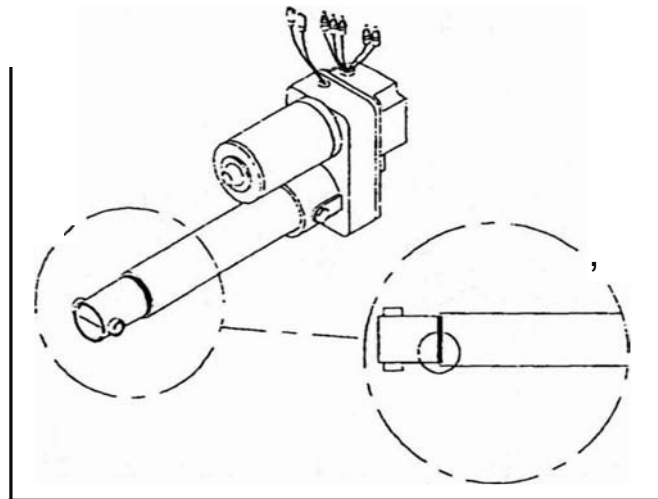

Fig.14
6. Rotate the interior tube of elevation unit until the mark line gets match with the edge of outer tube. (See Fig.14)